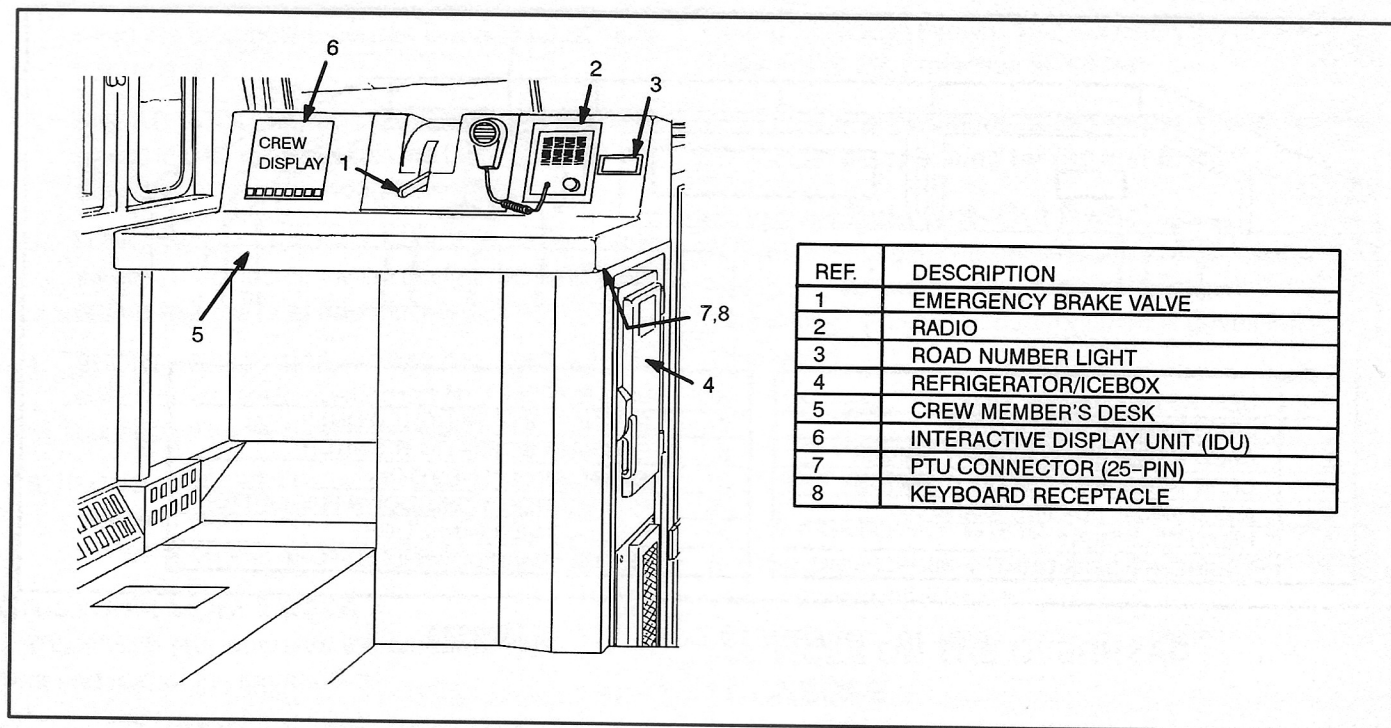

FIG. 11. CREW MEMBER'S AREA. E-39922B.
**NOTE:** Numbers in parentheses ( ) refer to items found on Fig. 11 of this publication unless noted otherwise.